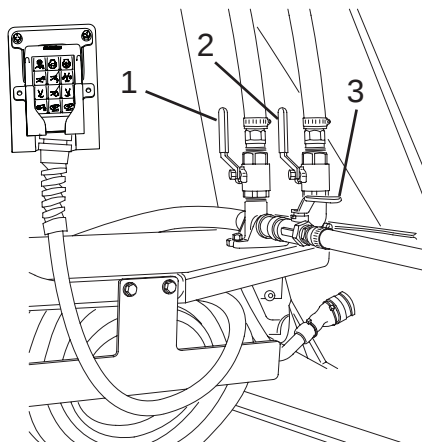

Figure 86
5. Open the upper wash-out valve (Figure 86, Item 1), “Add Water” valve (Figure 86, Item 2), or lower wash-out valve (Figure 86, Item 3) to activate the desired function.